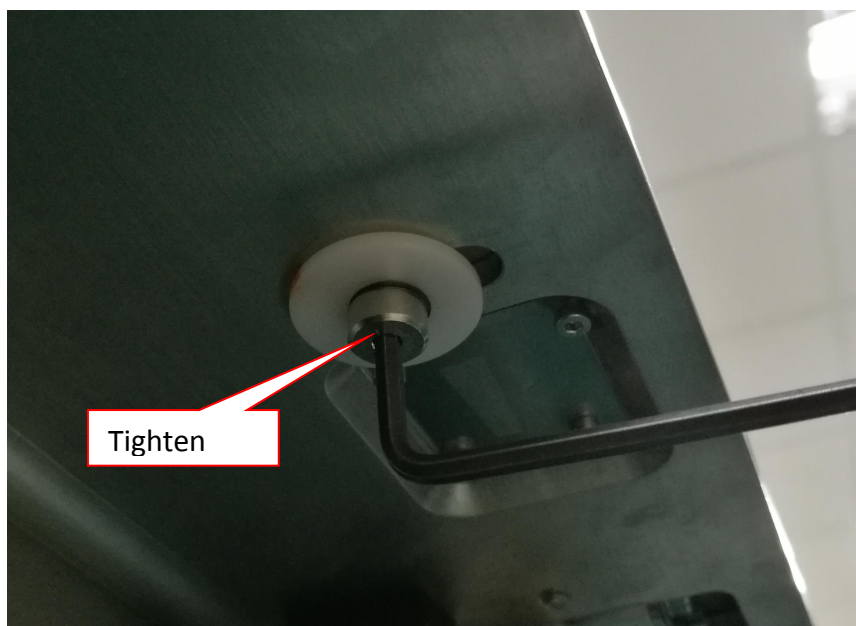

Figure 8 PC, Board Stop Assembly
4. Assemble all fastening (PIP Shoulder Screw, Curved Washer & Spacer) into PC, Board Stop. May refer to Figure 8. Tighten Shoulder Screws